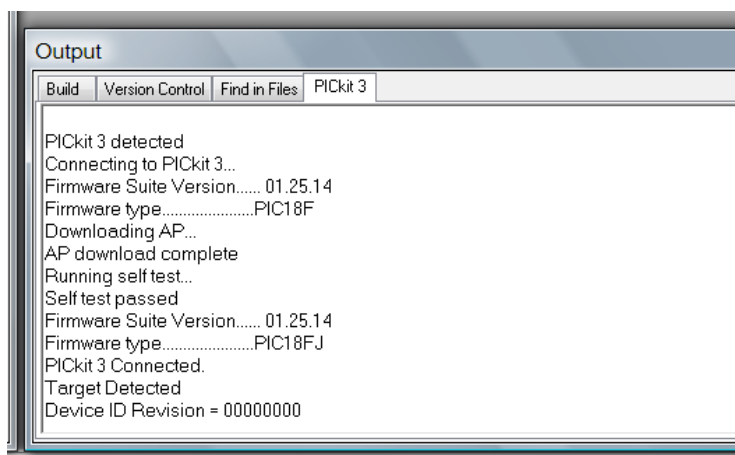

FIGURE 6-8
- 6.2.6** Click **OK** to continue. You should now see the following information in the output window (Figure 6-8).